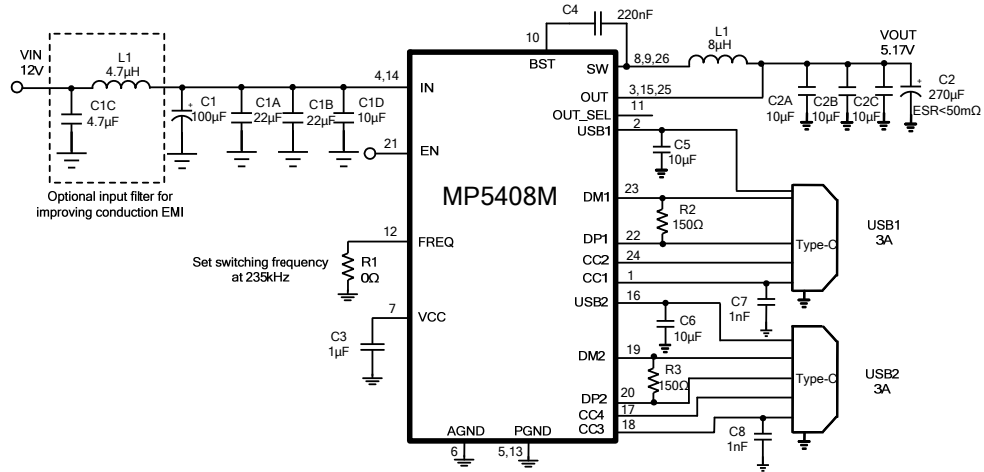
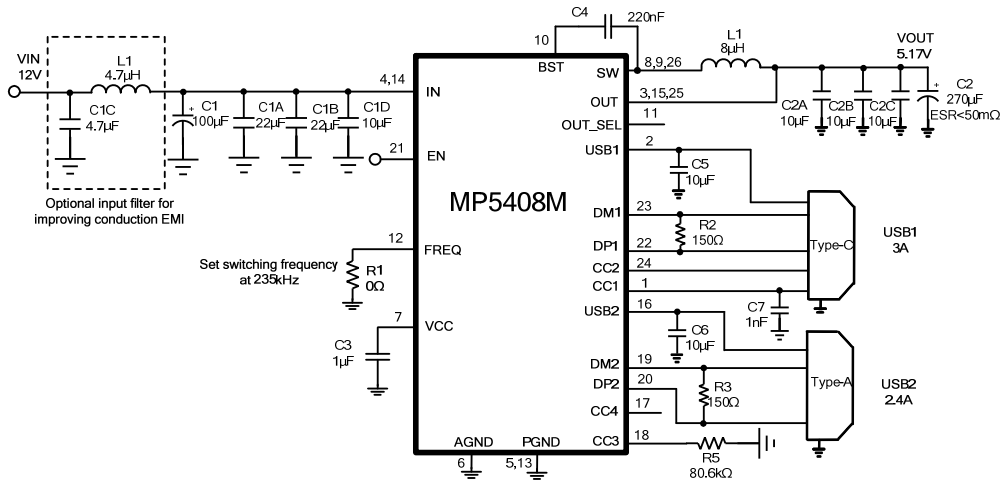

Figure 13: Dual USB Type-C 5V/3A DFP Ports (11)
Figure 15: One Type-C 5V/3A DFP Port, One Type-A 5V/2.4A Port (11)
10) The recommended layout is based on the Typical Application Circuits in Figure 13 through Figure 15.